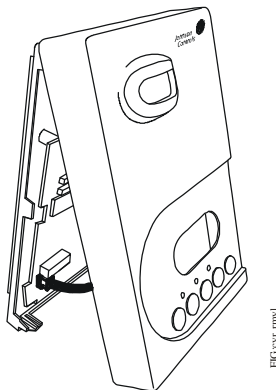

Figure 1: Removing the Thermostat Controller Cover (TEC22x4-4+PIR Model Shown)
2. Pull the bottom edge of the thermostat controller cover and open the thermostat controller as illustrated in Figure 1.